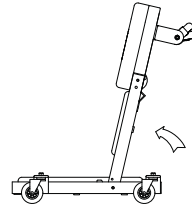

Figure 1 - Low seat configuration
1. Locate and unlock spring loaded locking pin for middle section by pulling out until disengaged. Then rotate head frame and middle frame upward as shown in Fig. 1 until the locking pin can engage hole in creeper seat locking plate (ensure lock pin is fully engaged). This is the low seat configuration.